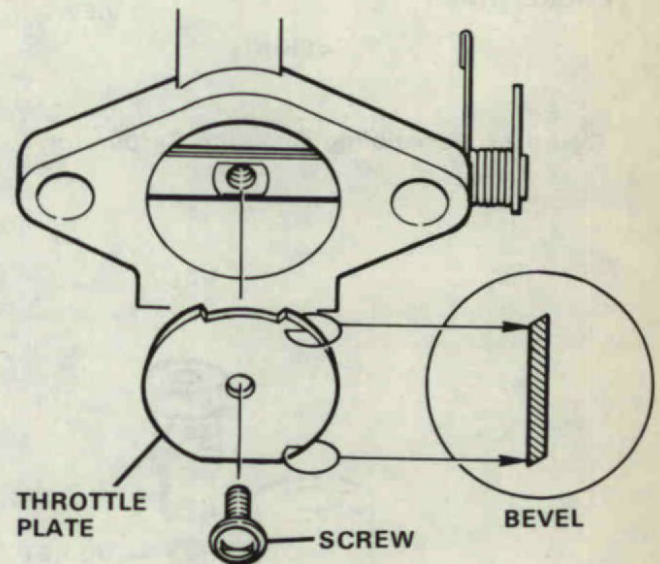

Figure 27. Assembling Throttle Valve to Shaft.
- A. Place throttle spring on throttle shaft and insert in carburetor body. Figure 27.
Throttle plate is beveled and can only be assembled one way. See enlarged section in Figure 27.